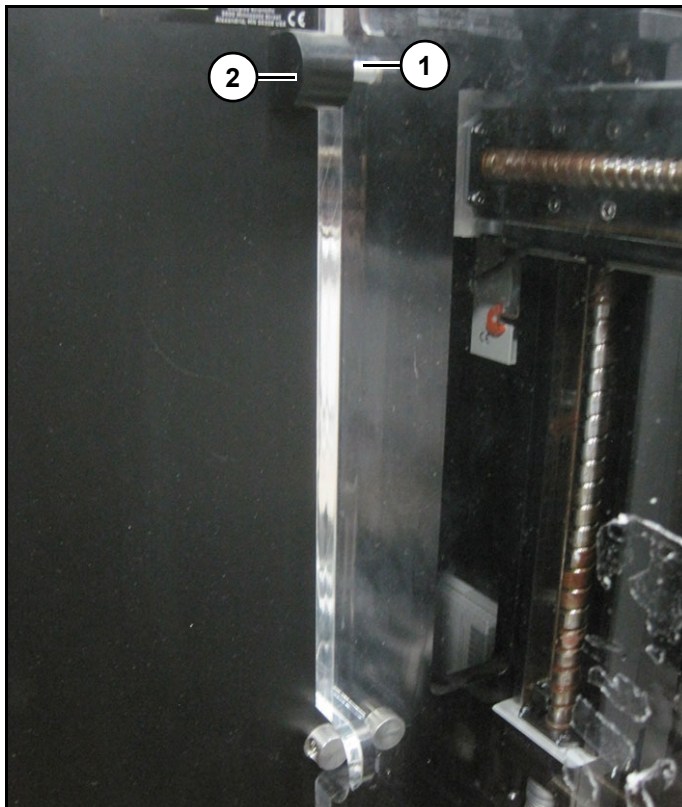

Figure 2
3. Each module has three alignment pins (1) on left side and three alignment sockets (2) on right side. (Figure 2)